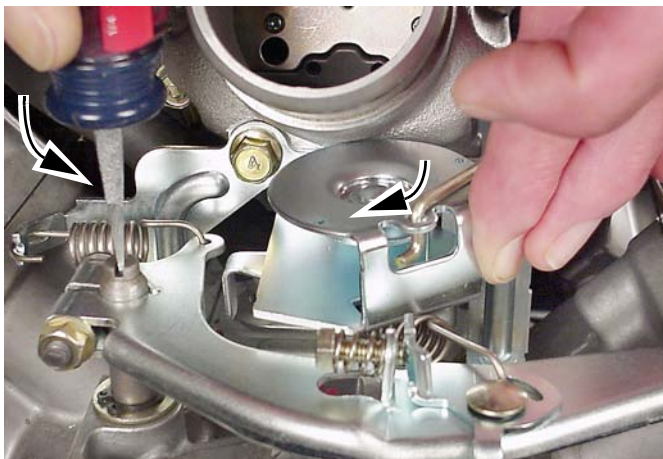

Fig. 170
1. With governor lever nut loose, rotate governor control swivel clockwise as far as it will go (wide open throttle) and hold in this position, Fig. 170.